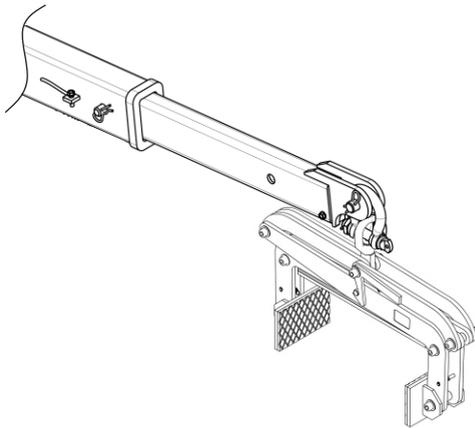

Figure 1.1
**Step 1:** Hook the Scissor Clamp to a forklift boom or to a crane hook (Figure 1.1).